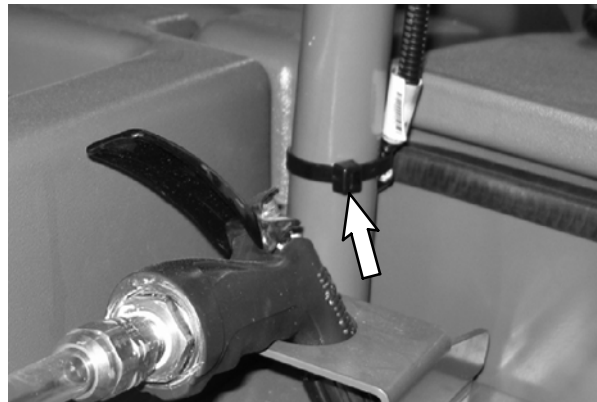
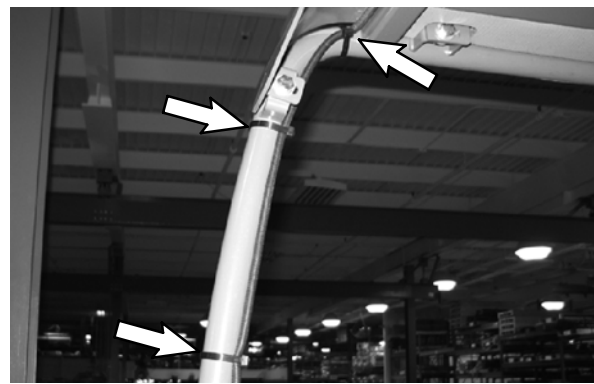

FIG. 7
FIG. 8
8. Use four cable ties (12) to secure the warning/overhead harness (9) to the leg of the overhead guard. Refer to Fig. 7 and Fig. 8.
12. Route the warning/backup harness (8) through the notch in the solution tank and install a cable clamp (9) onto the harness. Refer to Fig. 8.